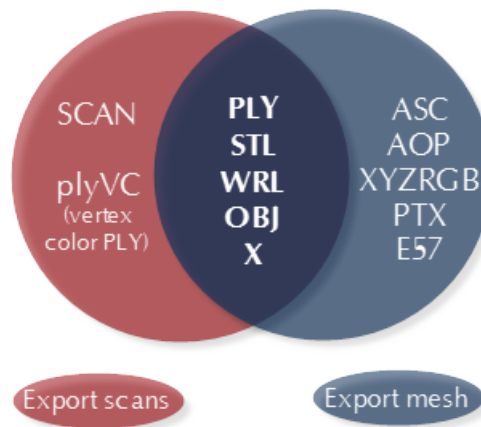

Figure 7.2.: Formats available for each command as well as for both commands.
4. Select *Scan export format* using the eponymous dropdown list (see Figure 7.2.).